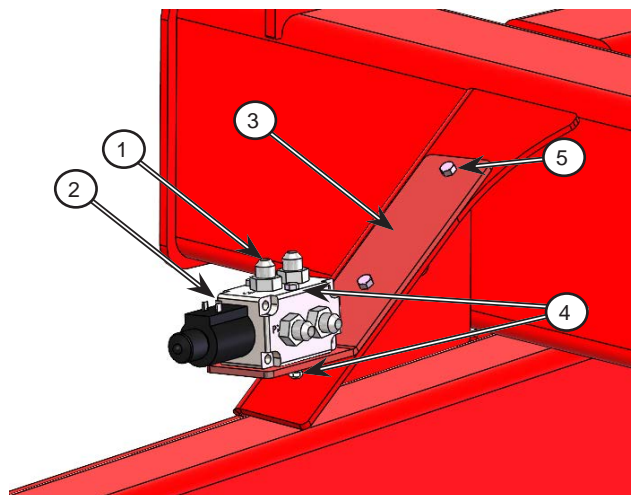

Figure 2.1: Fasten the ESV onto the mounting bracket (RH side shown)
1. Install the 6 8M8-8MJ hydraulic adapter fittings (1) onto the electric selector valve (2), as shown in *Figure 2.1*.
2. Fasten the ESV (2) onto the mounting bracket (3) using  $\frac{1}{4}$ " x 3- $\frac{1}{4}$ " hex bolts and  $\frac{1}{4}$ " flange lock nuts (4), as shown in *Figure 2.1*.
3. Fasten the mounting bracket (3) to the top of the right-hand (RH) or left-hand (LH) frame gusset, under the tub floor, using  $\frac{5}{16}$ " x 1" hex bolts (5) and  $\frac{3}{4}$ " flange lock nuts, as shown in *Figure 2.1*.